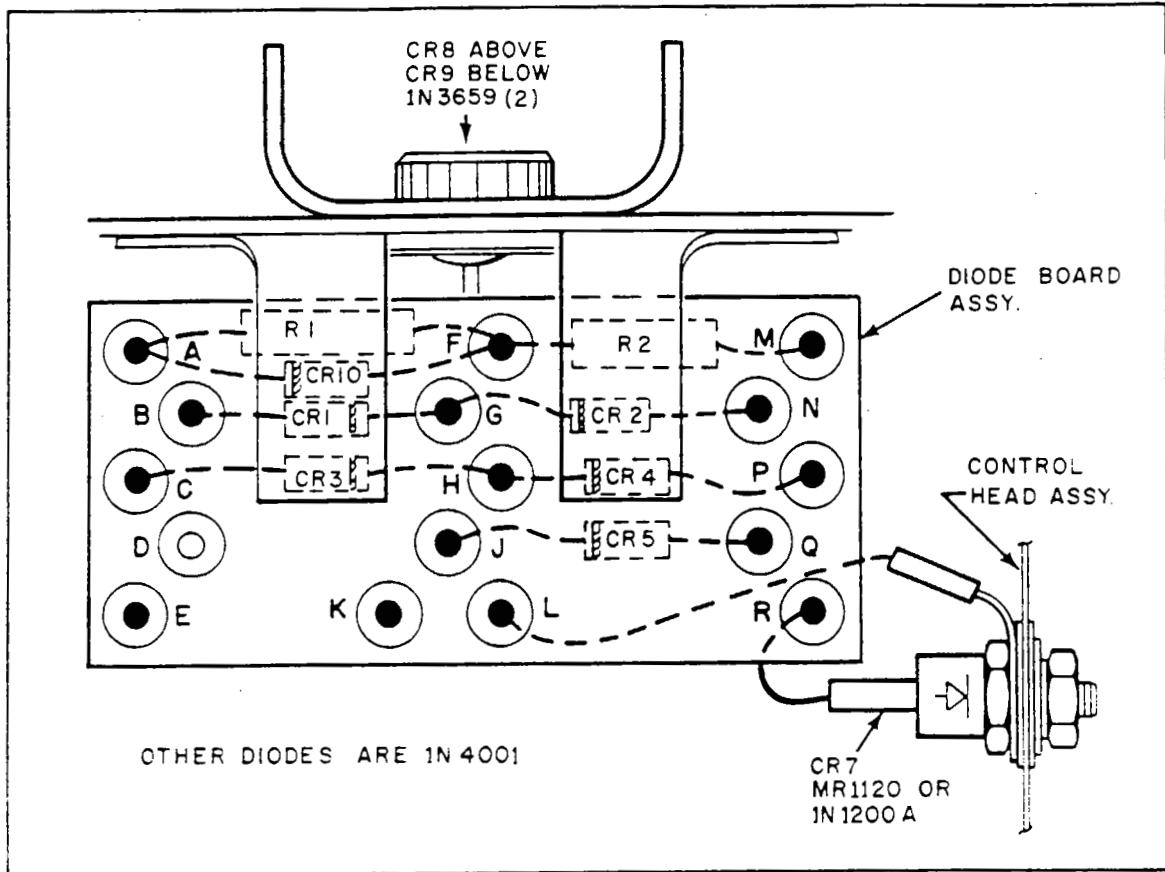

Figure 13-15. Control Head - Diode Mounting Board, Diode Location and Number, Serial Nos. 32-7240056 to 32-7340042
- h. Make and check electrical connections. (Refer to Figure 13-15.)